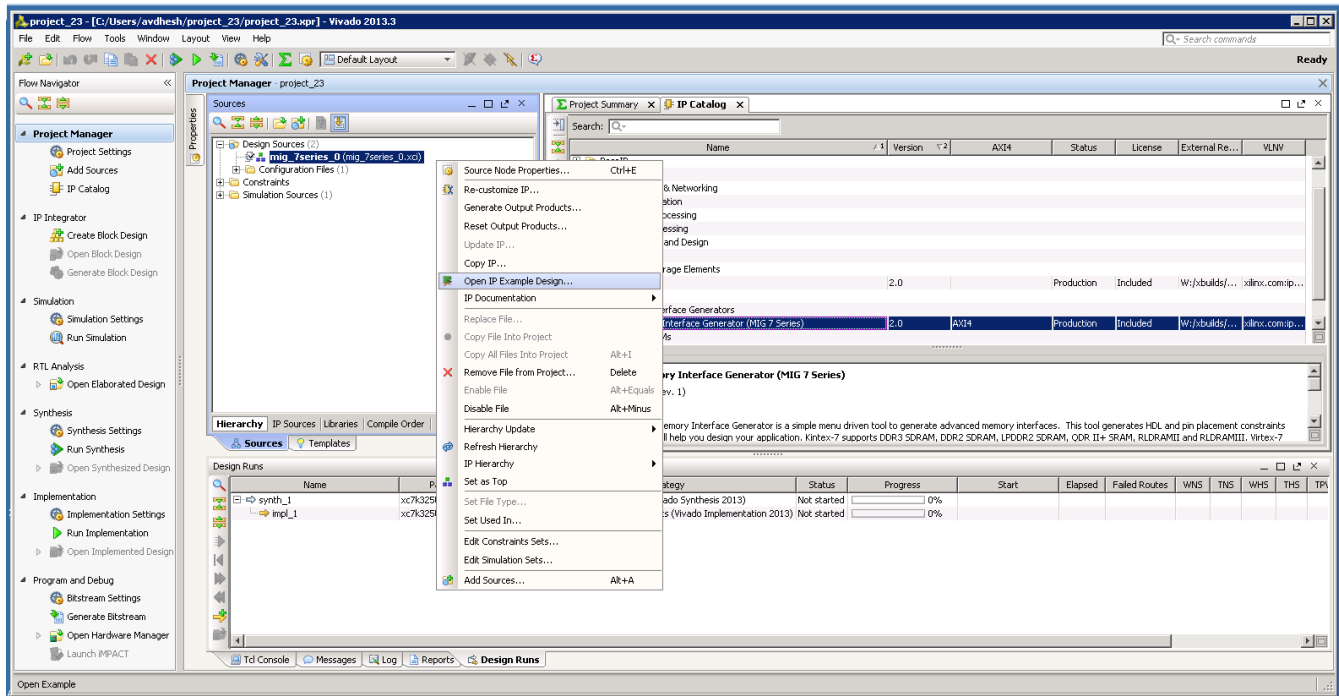

Figure 1-36: Open IP Example Design
9. Vivado supports **Open IP Example Design** flow. To create the example design using this flow right-click the IP in the **Source Window**, as shown in Figure 1-36 and select.